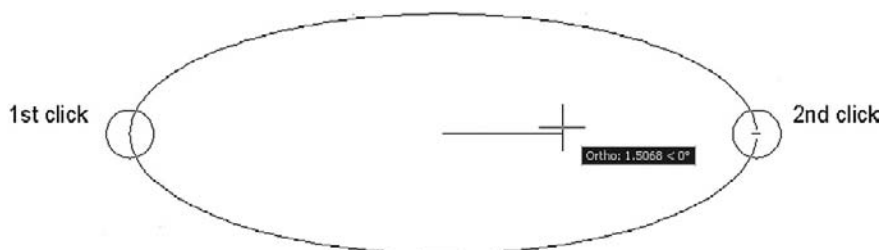

FIGURE 2.20
- Step 3.** With Ortho on (not required but good to have), click again somewhere off to the left or right of the first point. Then, move the mouse back toward the center as the ellipse is formed, as seen in Figure 2.20.